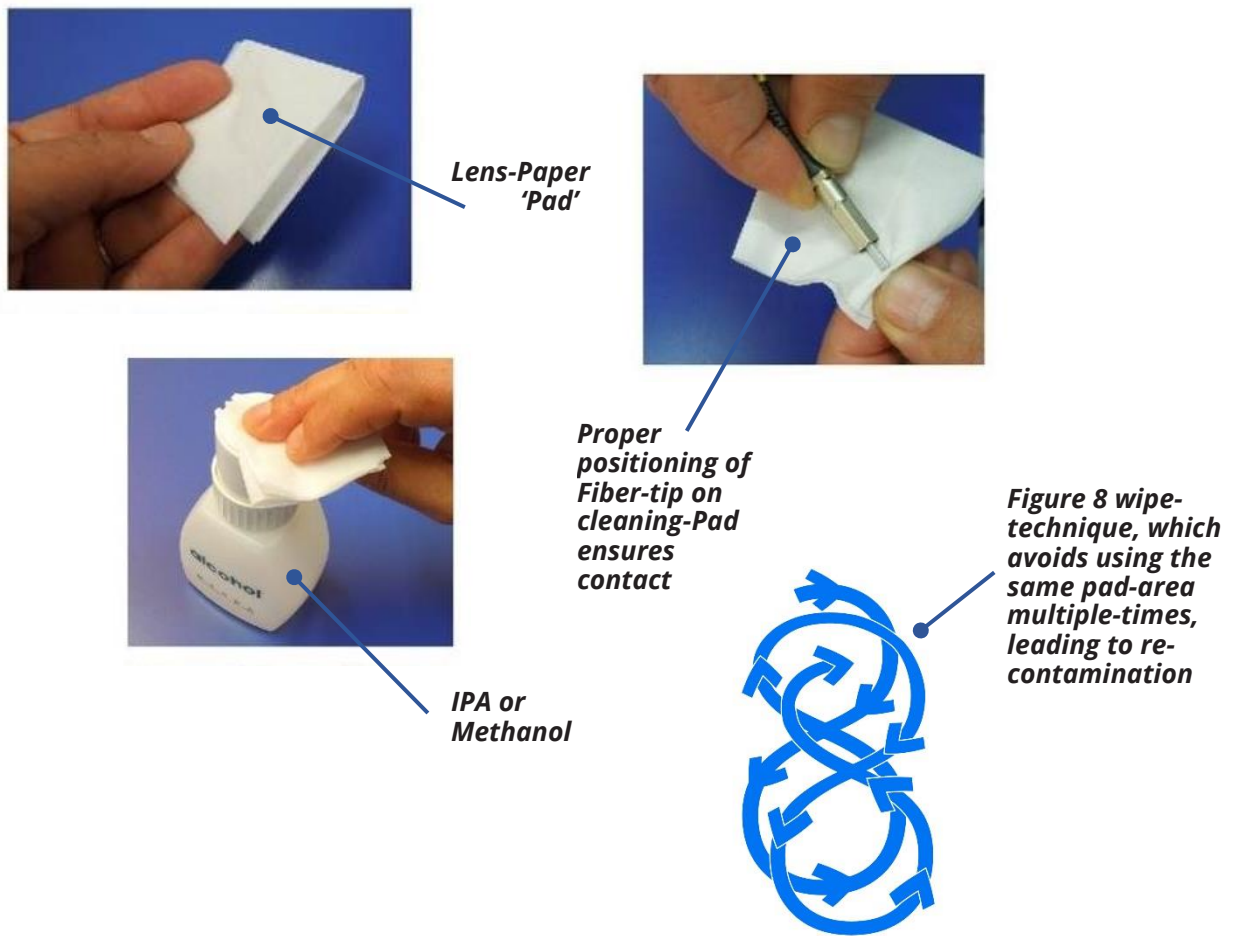

Figure 9.3-3: 'Figure 8' Wet-cleaning a fiber-tip with a 'cleaning pad' made from optical-grade lens paper.
4. If a tip is dirty, clean with a cartridge cleaner, as-per the manufacturer's instructions – or – follow a simple 'Wet-to-Dry wipe' technique, as-follows: (Also see Figure 9.3-3, below)
(See technique-steps illustrated in Figure 9.3-3, next-page)